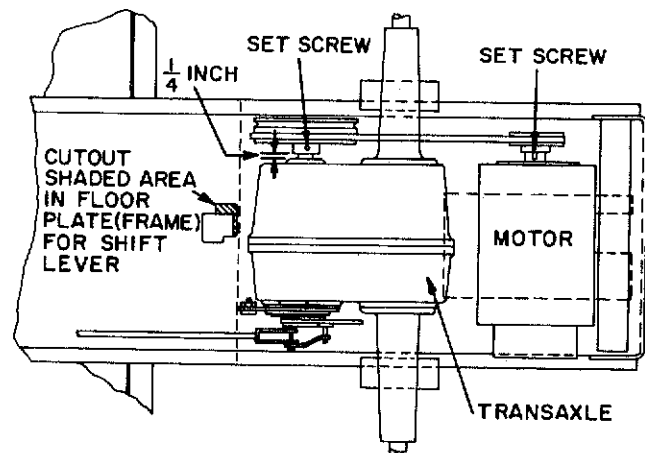

Figure 2
3. Transfer the transaxle pulley to the new transaxle, allowing 1/4-inch spacing between the pulley hub and the casting boss, as shown in Figure 2. Tighten the set screw on the key to 110-130 inch-pounds.